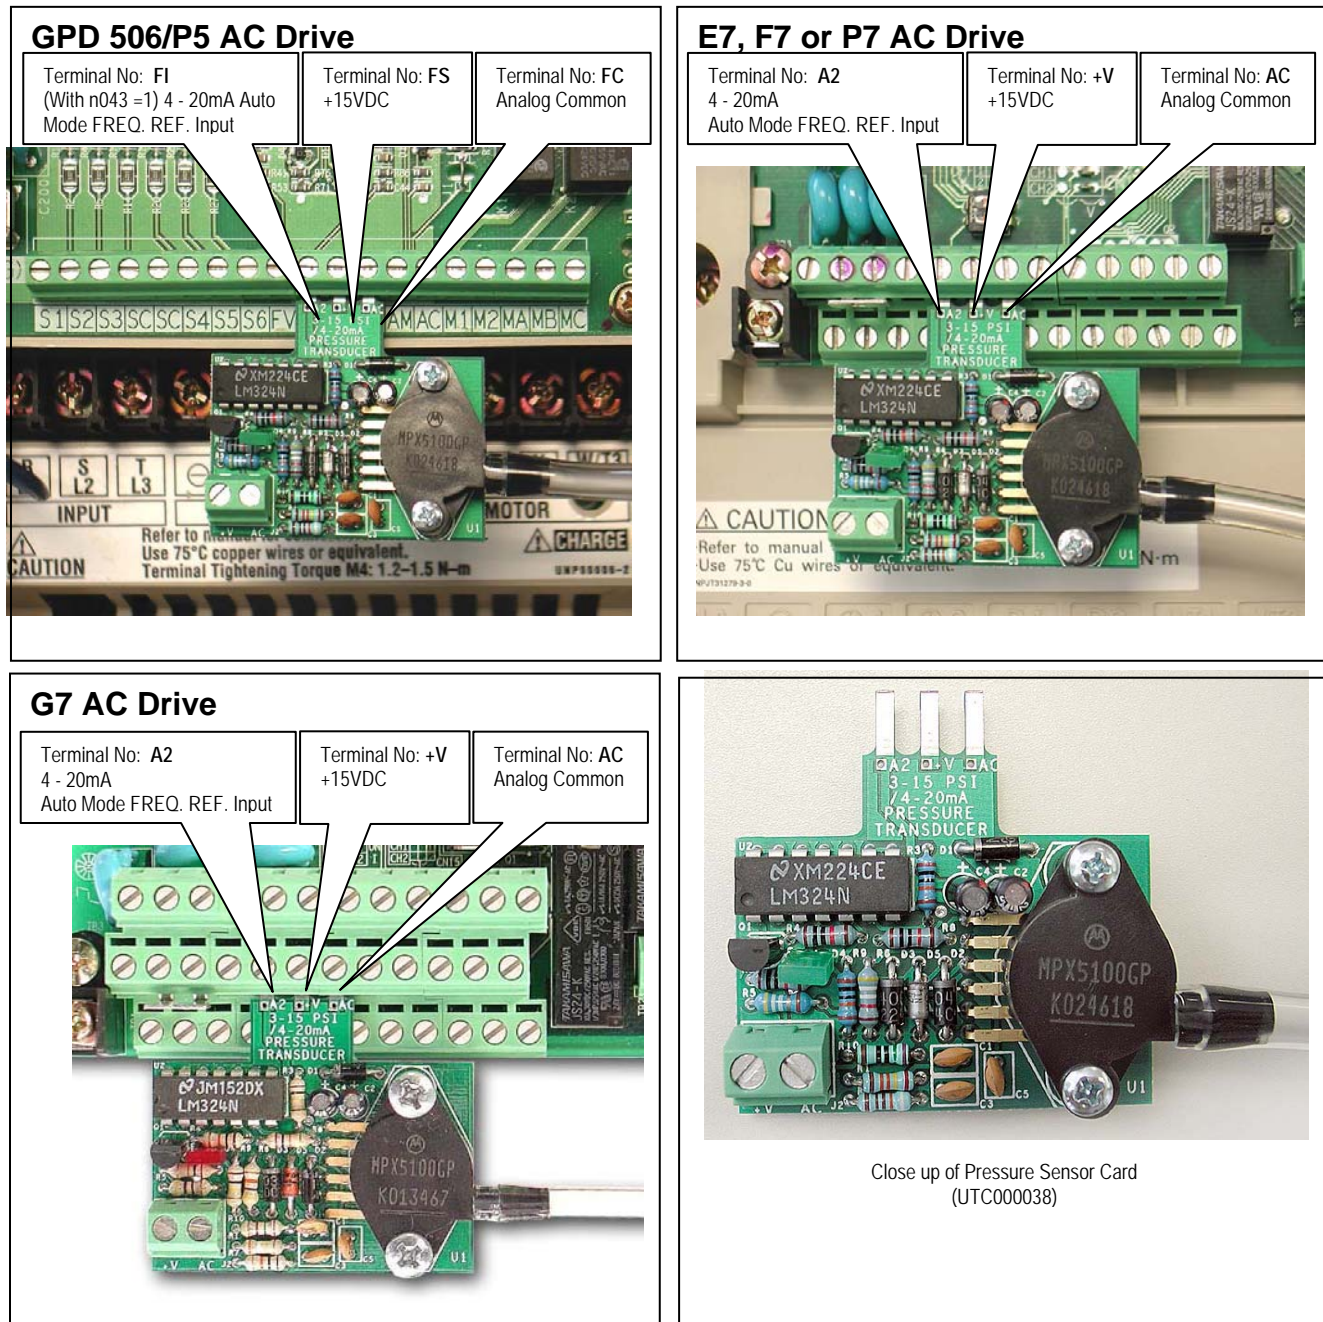

Figure 3. Installation of Pressure Sensor Card onto Drive Control Board of GPD506/P5, E7, F7, P7, and G7 Drives
Refer to Figure 3 – Installing Pressure Sensor PCB on E7, F7, G7, P7 or GPD506/P5 Drive
9. Install the Pressure Sensor Card on the drive's control board terminals as shown in Figures 3 and 4. The fingers will fit inside the terminal holes of the Drive, (Terminals FI, FS, and FC for GPD506/P5 drives or A2, +V and AC for E7/F7/G7/P7 drives). Please note that the card will be mounted with topside up, where the components are visible and not the soldering. The (2) terminals "+V" and "AC" on the card are connected to the same (2) fingers on the card, and are provided for customer thru connections (They are not used by the card).